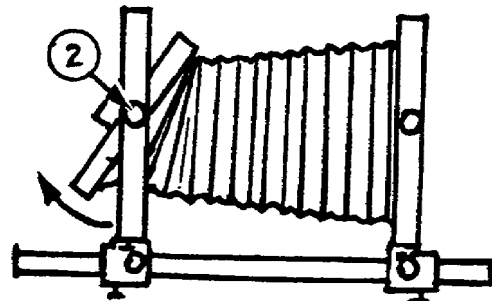

Figure 1-38. Pivot Lock Knob.
(4) To place the plane of sharp focus of the lens in the most advantageous relationship to the subject, use the swings and tilts of the front frame. Tilt the camera front frame as follows:
(a) Loosen the front pivot lock knob ②, (fig 1-38).